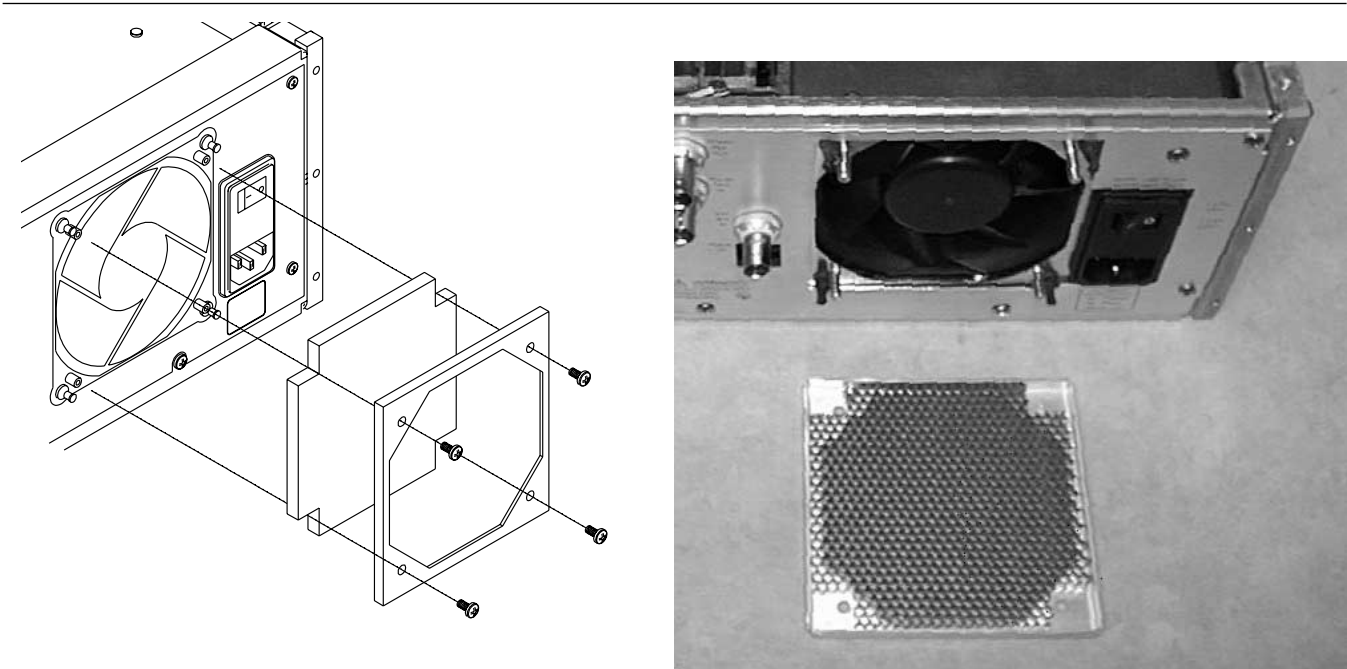

Figure 1-3. Removing/Replacing the Fan Filter Guard
- Step 1.** Use a #3 screwdriver to remove the four screws that fasten the filter guard to the rear panel (see Figure 1-3). Retain the screws for reassembly.